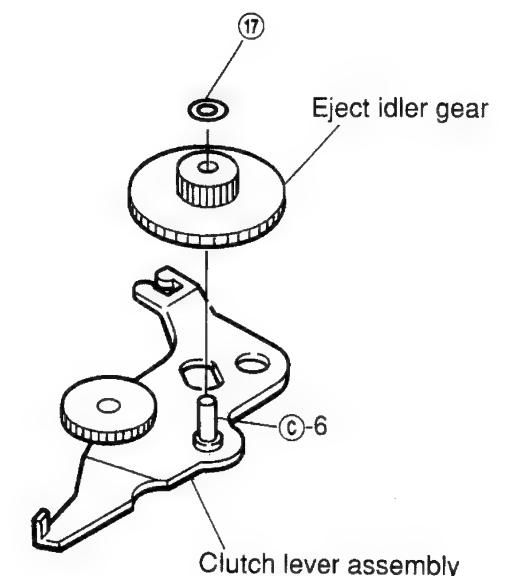

Figure 15
- (2) Remove M1.2 lock washer ⑰ and remove the eject idler gear as shown in Figure 15.
- (3) Mount the new gears and clutch lever following the removal steps in the reverse order.
Note: When mounting the gears to the lever, apply grease (FLOIL 425A) to the position ⑥ as shown in Figure 15. Align the position ⑦ with the position ⑧ and mount the clutch lever as shown in Figures 10 and 15.